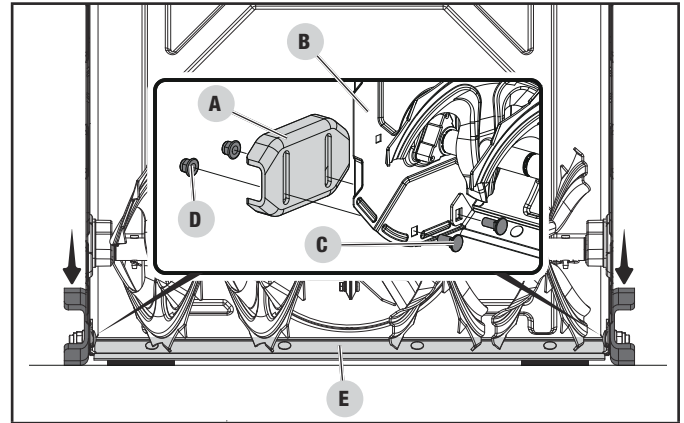

Figure 10
- Mount skid shoes (A) onto sides of auger housing (B) with two (2) M10 x 25 square neck carriage bolts (C). Use 15mm deep well socket to install two (2) M10 nylon lock nuts (D) but keep loose (Fig. 10). Repeat on the other side.
- Slide two shims under the shave plate (E) to set the desired height of shave plate over the pavement. Push each skid shoe (A) down against the pavement and use 15mm deep well socket to tighten the flange washer lock nut (D). Torque until snug. Do not overtighten (Fig 10.)